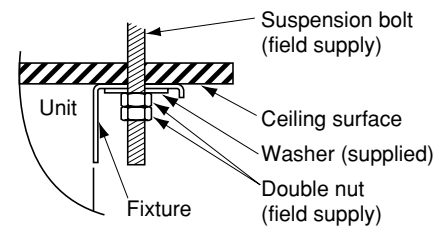

Fig. 3-89a
- (6) Carry out the preparation for suspending the indoor unit. The suspension method varies depending on whether there is a suspended ceiling or not. (Figs. 3-89a and 3-89b)
- (7) Suspend the indoor unit as follows: